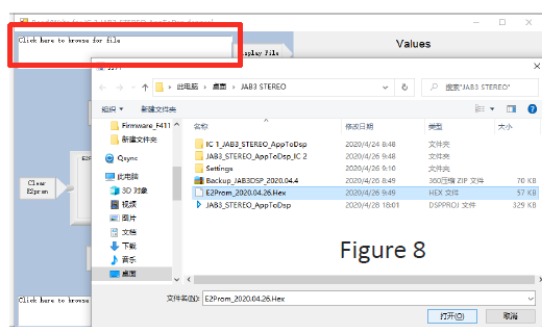
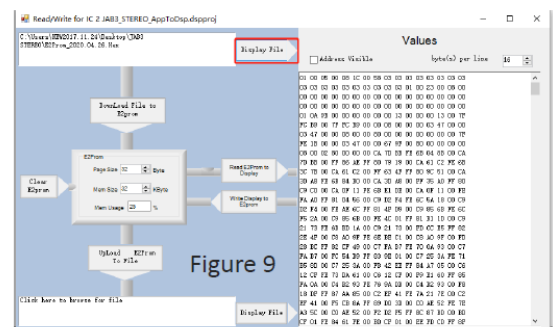

Figure 8
Figure 9
2. Click ‘Click here to browse for file’ and select firmware file (Figure 8). Then click “Display File” like Figure 9.